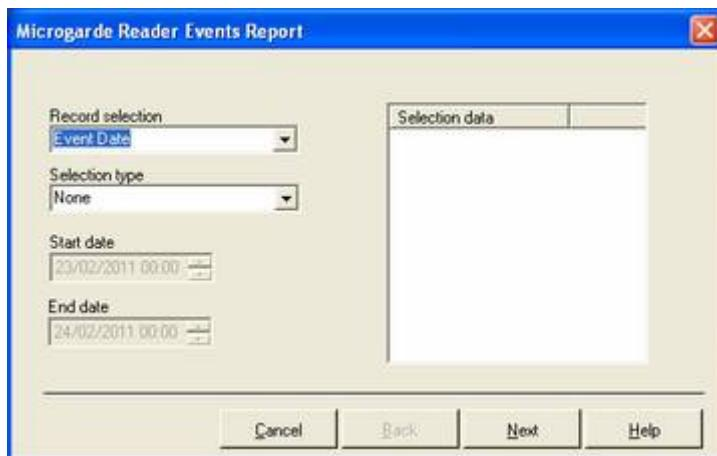

Figure 83 Creating a report
6. Depending upon your selection, you may be prompted to choose more selection criteria and you will be presented with a similar dialog box to that shown in Figure 83. If you do not want to apply any more selection filters, click on the **Next** button.